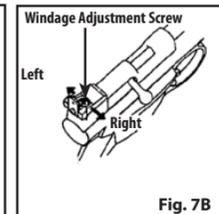

Fig. 7B
3. The rear sight may be adjusted to shoot right or left (windage). Loosen the windage adjustment screw by turning it counterclockwise. Move the sight to the right to make the pellet hit to the right on the target. Move the sight to the left to make the pellet hit to the left on the target. Then tighten the windage adjustment screw by turning it clockwise (Fig. 7B).